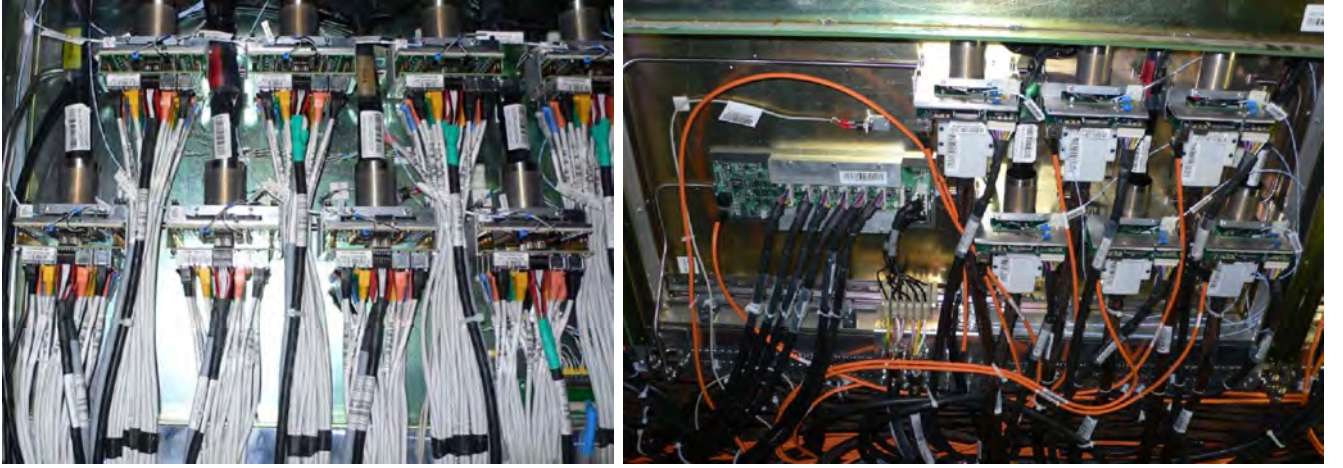

Figure 32: A PS VFE box with the electronics on the left and a SPD one on the right.
The SPD/PS detector consists of a lead converter that is sandwiched between two almost identical planes of rectangular scintillator pads and is described in Ref. [52]. The cells are packed in  $\sim 48 \times 48 \text{ cm}^2$  boxes (modules) that are joined into supermodules. Each supermodule has a width of  $\sim 96 \text{ cm}$ , a height of  $\sim 7.7 \text{ m}$  and consists of modules that form 13 rows and two columns mounted on a long aluminium strip which supports a service box (VFE box) in steel at each end which contains multianode photomultipliers (MAPMT), VFE electronics, regulator boards and pipes for the electronics water cooling system. A view of a typical box is given in Fig. 32. The modules are connected to the MAPMT by optical cables that consist of bundles of clear fibres, enclosed in a light-tight plastic tube. Depending on the position of the detector units inside the supermodule, the length of fibre bundles varies from 1.3 to 3.5 m. The detector planes are divided into two parts, each of them consists of four supermodules, a lateral and longitudinal cable tray, assembled altogether with screws and can slide independently on horizontal rails to the left and right thanks to a moving system (vis à billes, motor, etc.). Similarly the lead converter is divided into two parts, each of them consists of two independent strips 16 mm thick, 2 m wide and 8 m long screwed altogether, that can slide independently on horizontal rails. The main parameters of the mechanical structure are given in Table 33.
- the Very Front-End (VFE) electronics housed in VFE boxes (Fig. 32) mounted on top and bottom of the supermodules [59],
**VFE Boxes** PS VFE boxes (Fig. 32 right) and SPD VFE boxes (Fig. 32 left) [59] host MAPMT block and regulator boards with their cooling system and cables. They are attached at the top and bottom of each supermodule. A MAPMT block is composed of a MAPMT surrounded by a  $\mu$ -metal cylinder, a high voltage board, a VFE board and is connected to an optical fibre bundle and to cables. An aluminium plate is mounted on the top of a VFE board in contact via thermal pads with the chips. MAPMT blocks and regulator boards are maintained with a special fixation in aluminium hosting a stainless pipe with circulating demineralized water to ensure the cooling of the electronics. This fixation is divided into two bars and can accommodate up to eleven MAPMT and some regulator boards. The number of MAPMT blocks and regulator boards inside a VFE box depends on the granularity of the detector and so on its location. VFE and regulator boards for PS and SPD are slightly different, but the principle is the same. Each VFE box is also equipped with a thermoswitch connected with a cable to the DSS system.